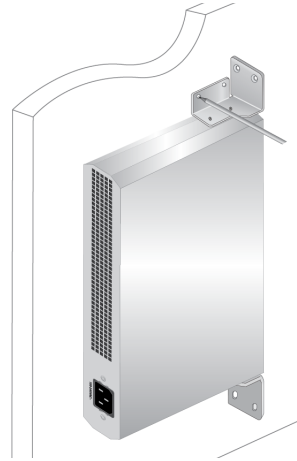

Figure 11. Marking the Screw Hole Locations
5. Have another person hold the switch with the brackets at the wall location where the switch is to be installed, while you use a pencil to mark the wall with the locations of the four holes in the brackets. See Figure 11 as an example.
Figure 11 shows the front panel oriented toward the right side. However, the switch can be mounted on the wall with the front panel facing left, right, up or down.